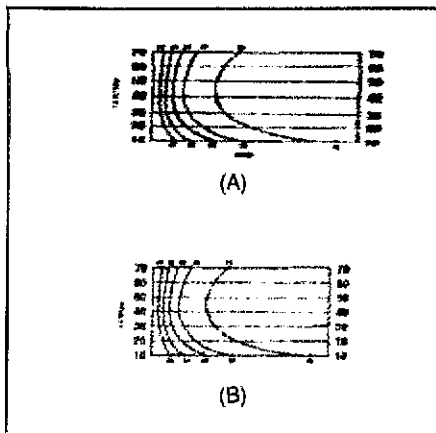

Fig 5—A comparison of picture sections made with the Sueker interface (A) and the simple interface (B).
- On p 20, Fig 5, the 57- Ω resistor should be labeled 50- Ω .